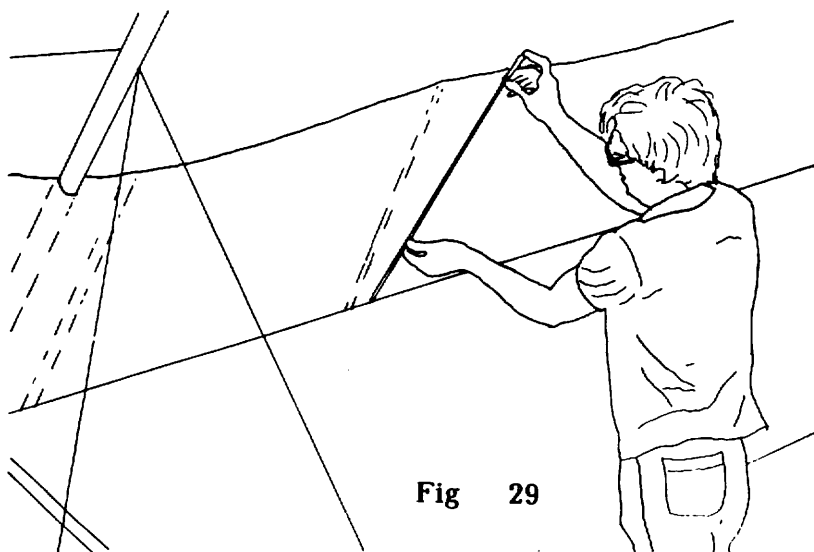

Fig 29
17) Install the bottom surface battens. If the wind is less than 10 mph, this is done most easily by putting the nose down (into the wind.) (Fig 29) The longer bottom surface batten is the inboard batten. When the front of the batten reaches the leading edge seam, you may have to press downward on the batten in order to allow it to clear the seam. Push the batten all the way into the pocket until the rear end is flush with the rear of the pocket. The strings on the rear ends of the bottom surface battens are to facilitate removal of the battens from the sail during beakdown. The bottom surface battens are not secured in the sail. Be sure that the battens go under the leading edge tube, and do not rest on top.